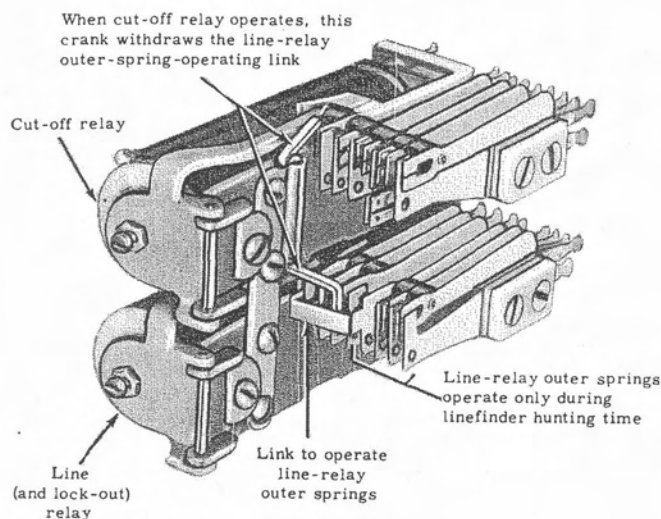

Figure 29. Mechanically interlocked line and cut-off relays for 2-relay mechanical-lockout line circuit.
6.42 The mechanical lock-out line equipment consists of two relays mechanically interlocked (figure 29). An extension of the line relay inner armature spring (1) transmits the armature motion to the outer two spring combinations. A crank disengages this extension from